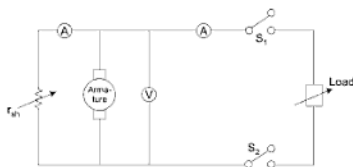

Fig. 7.18
- Now close the switch and increase load gradually (from Fig. 7.18).